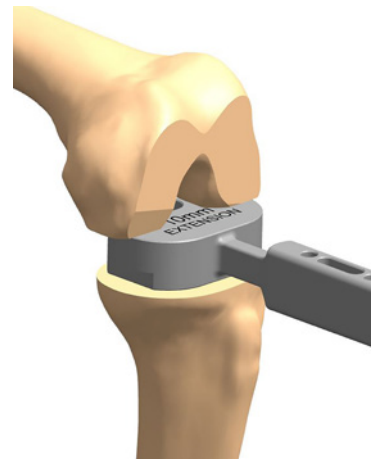

Figure 32
1. The 10mm end of the Extension Spacer Block should easily insert into the flexion gap in 105° of flexion (due to 15° posterior cut) (Figure 32).